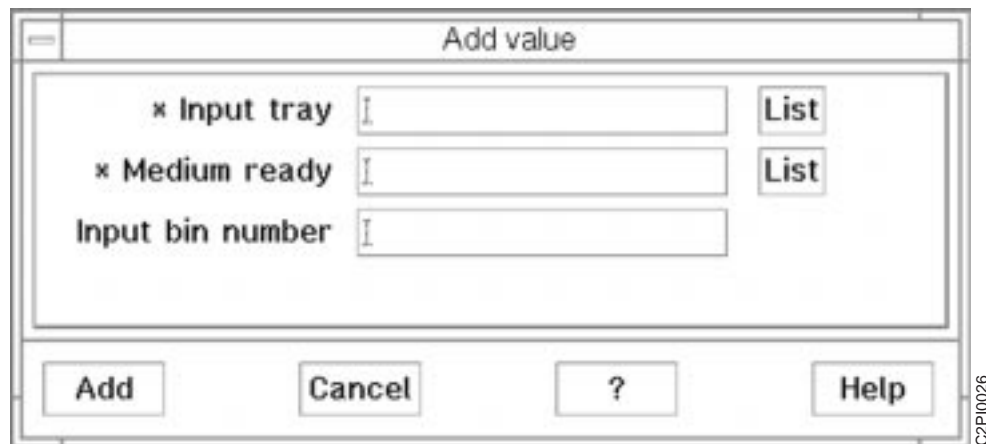

Figure 18. Add Value Window
8. In **Media ready** **1**, select **Add...** You see Add Value Window (Figure 18 on page 18).